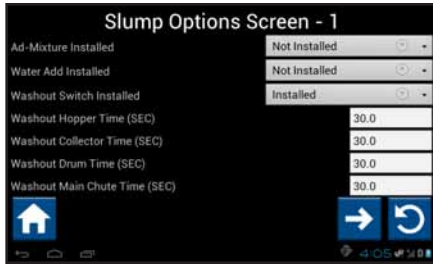

Figure 100
**NOTE:** If desired, adjust washout time settings per component in the Slump Options screen (Figure 100). Access the Slump Options screen by pressing the Administrator button on the Home screen, then press the Options button. On the Diagnostics Menu screen that pops up, press the Slump button to enter the Slump Options screen.